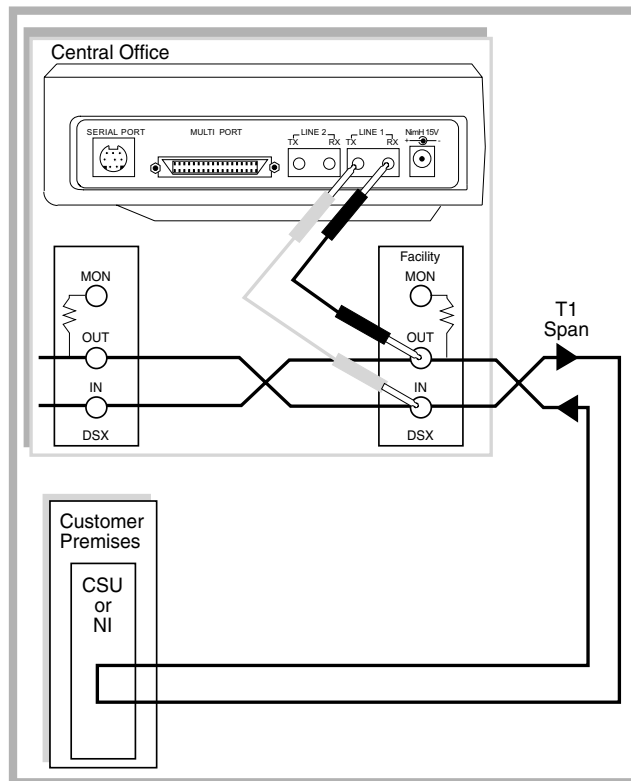

Figure 172 Accepting a New T1 Span
3. Connect the SunSet T10 to the circuit as shown in Figure 172. Press the HISTORY key on the keypad to clear the blinking history LEDs.